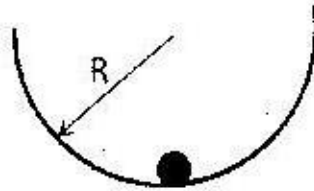

Figure 11(a) (i)
11. (a) (i) Using energy method, find the natural frequency of a small cylinder of radius  $r$  oscillating with in another big cylinder of radius  $R$  as shown in Figure 11(a) (i). (8)